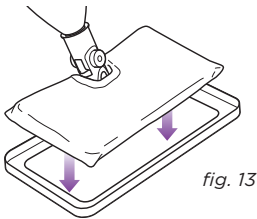

fig. 13
- 1 The Carpet Glider can be used with the All-Purpose Head to lightly steam your carpet and area rugs. Just place the mop head with micro-fiber cleaning pad attached into the glider. The recommended steam setting is **SCRUB** when using the Carpet Glider. (fig. 13)